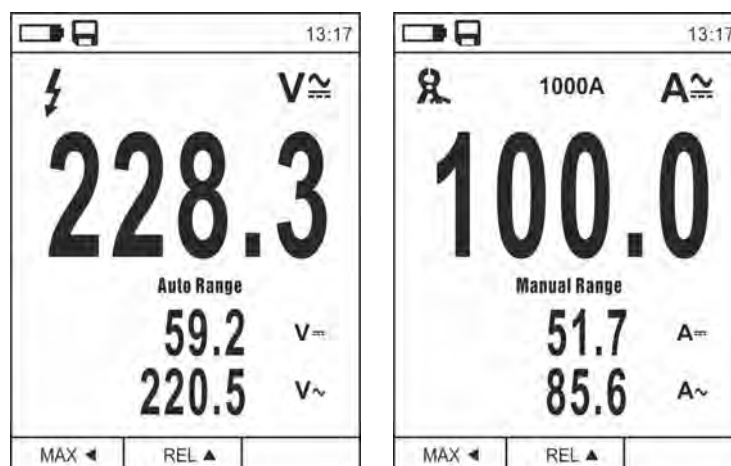

Fig. 6: Description of AC+DC Voltage and Current measurement
2. Press key **MODE** by selecting modes “ V_{\approx} ”, “ A_{\approx} ”, “ mA_{\approx} ” or “ μA_{\approx} ” (see Fig. 6).